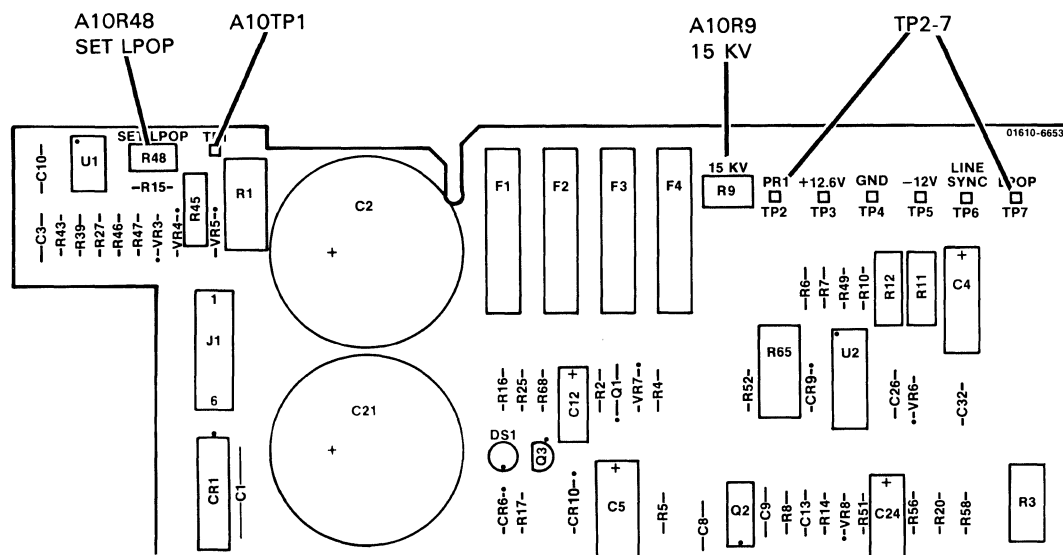

Figure 5-3. Power Fail and 15 kV Adjustment Locations
Figure 5-3 and Service Sheet 4A.
- c. Adjust A10R9 (SET 15 kV) for 510 V $\pm$ 10 V (see figure 5-3 and Service Sheet 4A).